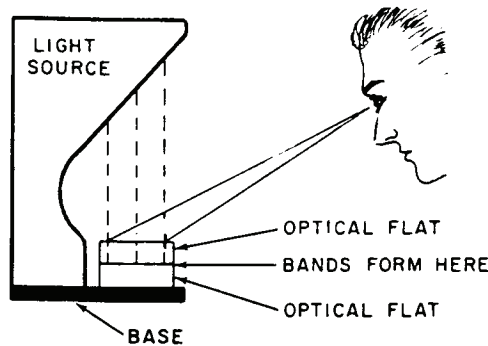

Figure 1. Monochromatic light - equipment setup.
- (1) Place one TI on another and place on base of monochromatic light (fig. 1).